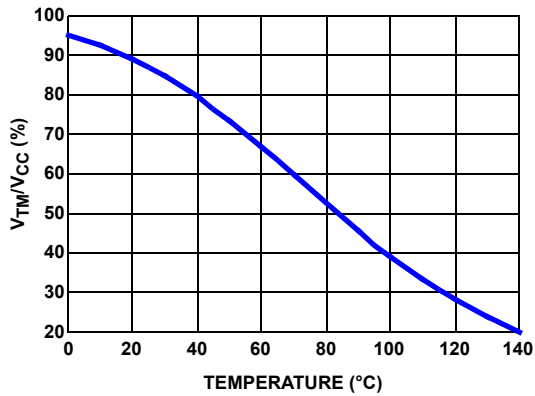

FIGURE 15. THE RATIO OF TM VOLTAGE TO NTC TEMPERATURE WITH RECOMMENDED PARTS
Figure 15 shows the TM voltage over temperature for a typical design with a recommended $6.8k\Omega$ NTC (P/N: NTHS0805N02N6801 from Vishay) and $1k\Omega$ resistor R_{TM1} . We recommend using these resistors for accurate temperature compensation.
Based on the V_{CC} voltage, ISL6336B converts the TM pin voltage to a 6-bit digital signal for temperature compensation. With the non-linear A/D converter of ISL6336B, the TM digital signal is linearly proportional to the NTC temperature. For accurate temperature compensation, the ratio of the TM voltage to the NTC temperature of the practical design should be similar to that in Figure 15.
1. Properly choose the voltage divider for TM pin to match the TM voltage vs temperature curve with the recommended curve in Figure 15.